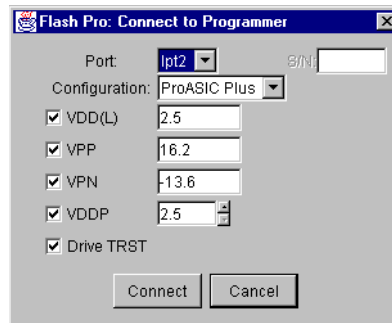

Figure 2-1. FlashPro: Connect to Programmer Dialog Box
1. From the *File* menu, click *Connect*. The FlashPro Connect to Programmer dialog box displays, as shown in Figure 2-1.